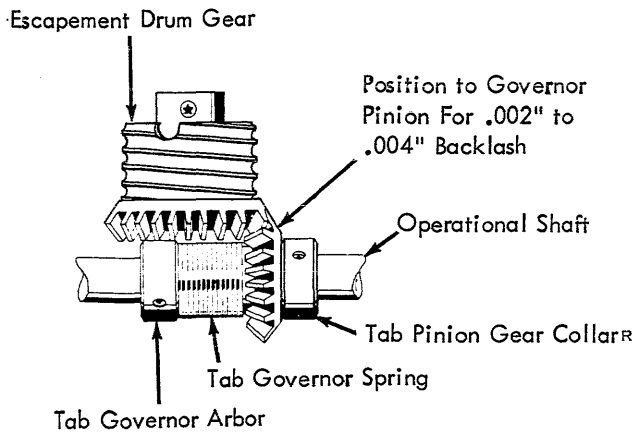

FIGURE 109. Tab Governor Pinion
2. Tab Governor Pinion - Adjust the tab governor pinion to have $.002''$ to $.004''$ backlash at the point of closest mesh with the escapement cord drum gear. Adjust the pinion by moving both the tab governor hub and collar located on each side of the pinion. The pinion should have a minimum of end play yet still rotate freely (Fig. 109).